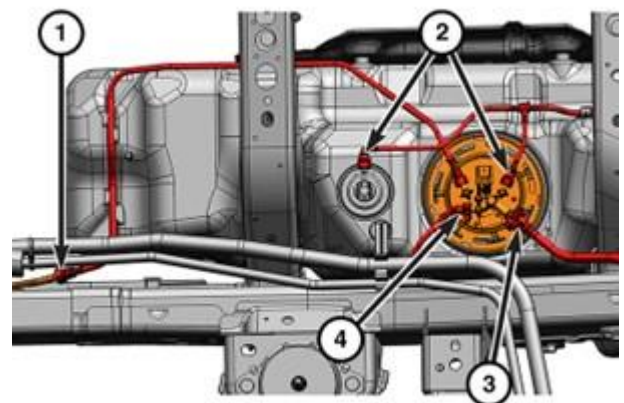

Figure 86 – Tank Connections
- 158. Rotate the breaker bar clockwise until all seven notches of the lock ring (1) have engaged (Figure 86).
- 164. Connect the fuel filler vent line quick-connect fitting (3) to the fuel pump module (Figure 86).
- 165. Connect the fuel supply line quick-connect fitting (4) (Figure 86).
- 166. Connect the fuel vent line quick-connect fittings (2) (Figure 86).
- 167. Connect the return fuel line quick-connect fitting (1) at the front of fuel tank (Figure 86).